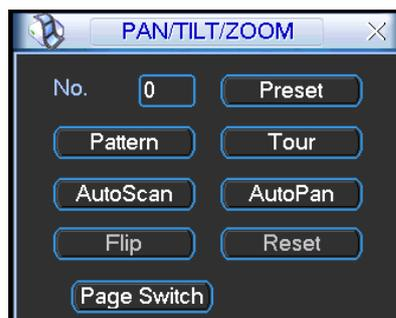

Figure 4-41
In Figure 4-37, click page switch button, the interface is shown as in Figure 4-41. Here you can activate the following functions:
- The following setups are usually operated in the Figure 4-37, Figure 4-40 and Figure 4-41.
In Figure 4-41, please input preset number in the No. blank, and click preset button.
In Figure 4-41, click “Auto Scan” button, the system begins auto scan. Correspondingly, the auto scan button becomes Stop button. Click stop button to terminate scan operation.
In Figure 4-41, click page switch button, you can see an interface is shown as below. See Figure 4-46. Here you can set auxiliary function. The aux value has relationship with the Aux button of the decoder.